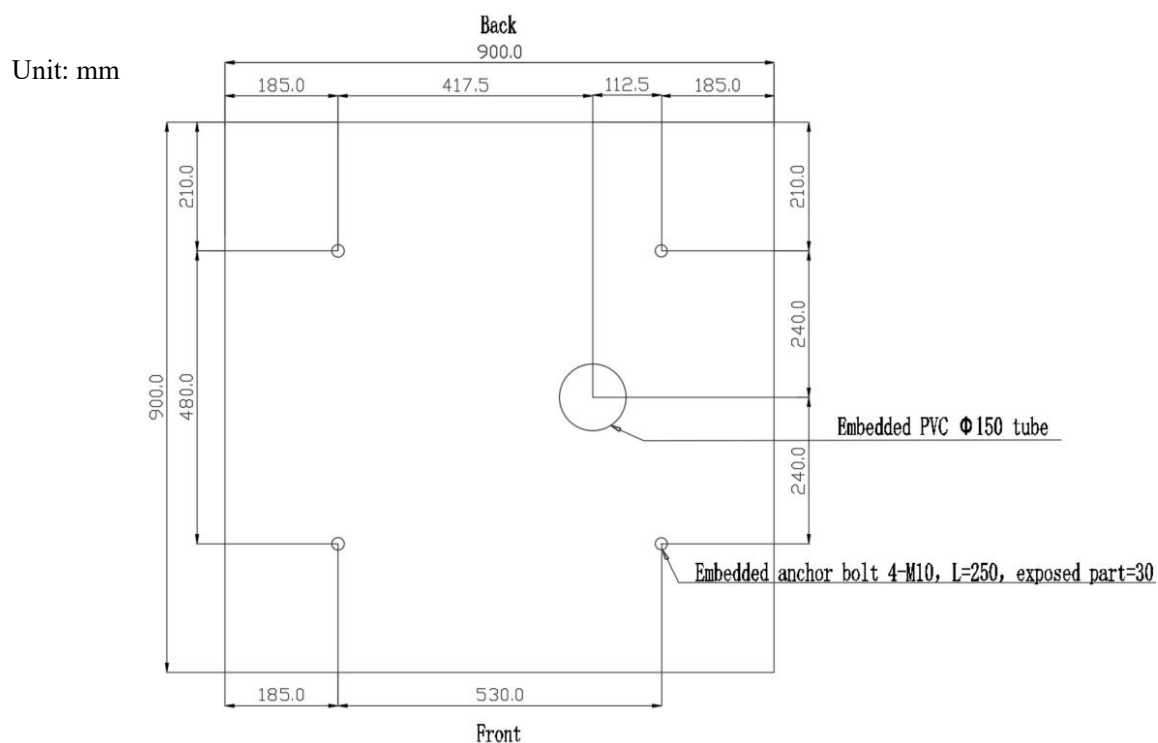

Figure 1 Top view of concrete foundation
If there is no suitable installation place on site, it is recommended to build a concrete foundation. The concrete foundation shall be poured before the product is installed. The size of the concrete foundation is 900mm*900mm*600mm. The top view is shown in Figure 1. The design of concrete foundation can be adjusted according to the customer's requirements and the actual situation on site. The inspection requirements for concrete foundation are as follows:
- (1) Pay attention to the correction level when pouring the foundation.
- (2) The foundation installation is higher than the ground level, and the necessary maintenance channels are reserved on the site depending on the specific space.
- (3) The foundation is filled with C25 concrete.
- (4) Reserve an outlet hole on the foundation for cable, as shown in the Figure1.
- (5) After the foundation is completed, use a level to test the levelness.
- (6) 4 *M10 screws with length L=250mm are embedded in the concrete foundation in advance and expose 30~40mm on the upper surface of the concrete foundation.